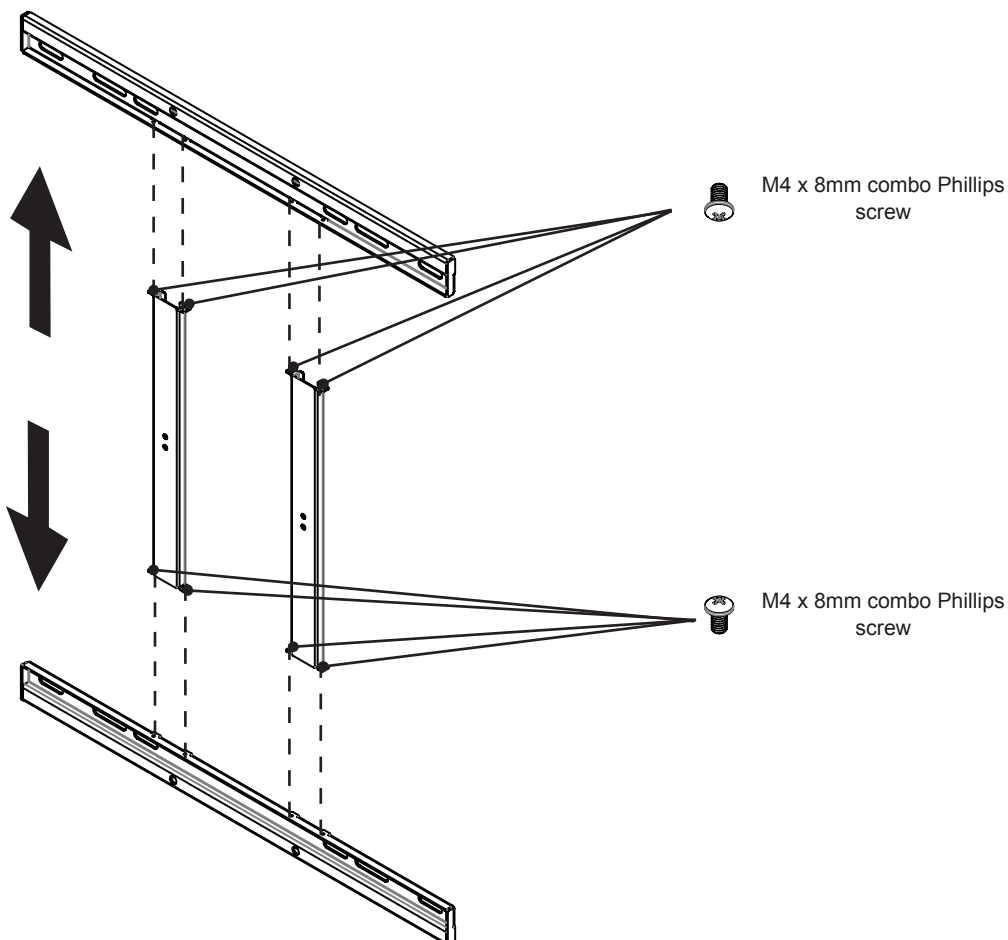

Fig. 1
Use eight (8) M4 x 8mm combo Phillips screws to attach the two (2) crosspiece brackets to the two (2) wall mounting brackets (Fig. 1).
Make sure the brackets are facing in the same direction as shown (Fig. 1).